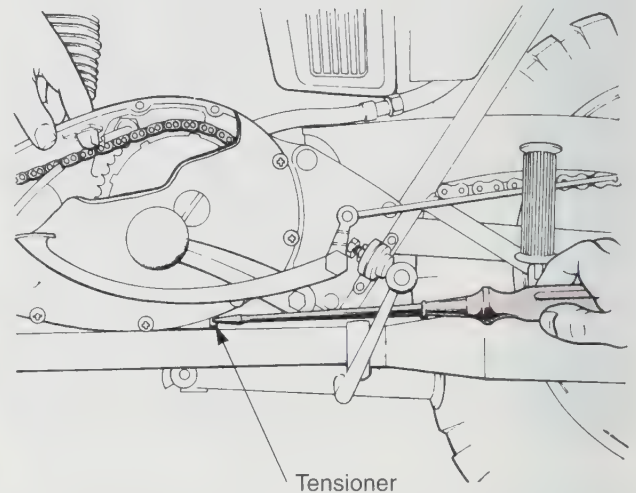

Figure 21-14. Some primary chain drive systems provide easy access for checking and adjusting chain tension. (Triumph Motorcycles, Ltd.)
15. Adjust the primary chain correctly, **Figure 21-14**.